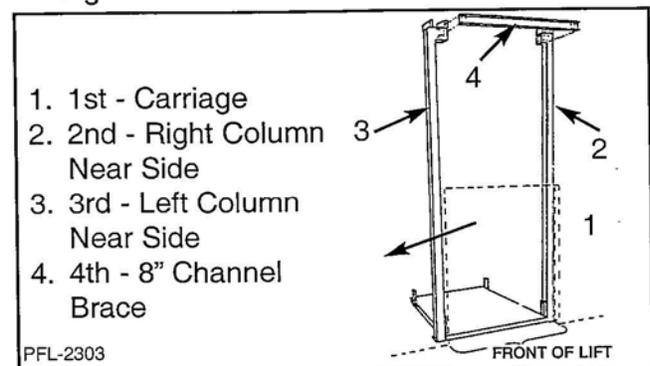

Figure 11
- Bolt 8" channel brace between columns at the top using 1/2" hardware, which consists of a bolt 1 3/4" long, nut, and lockwasher. See Figure 11.